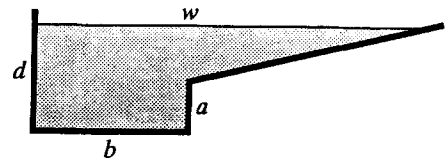

Figure X10.3.6
- 10.3.6 For the channel cross section of Fig. X10.3.6, $a = 1 \text{ m}$, $b = 3 \text{ m}$, $d = 2 \text{ m}$, $w = 8 \text{ m}$, and $n = 0.015$. What bed slope is required so that the flow will be $16 \text{ m}^3/\text{s}$ when the depth of flow is 1.50 m ?